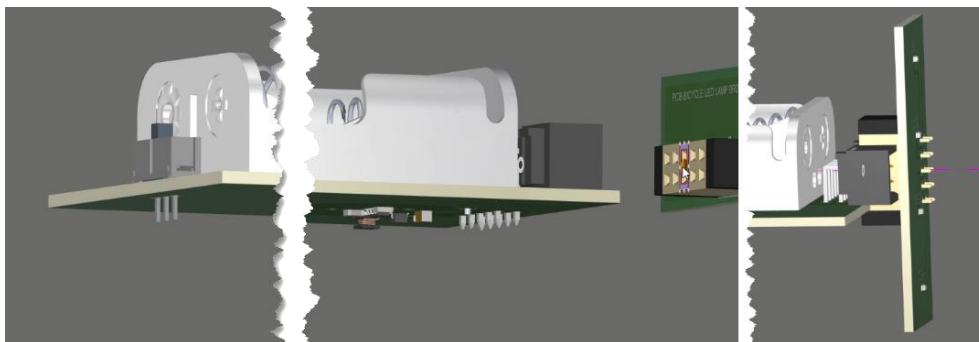

Figure 34. Select the front surface of connector of smaller board
68. Upon clicking the surface, the smaller board will change position after it mates with the larger board, as seen in Figure 34.